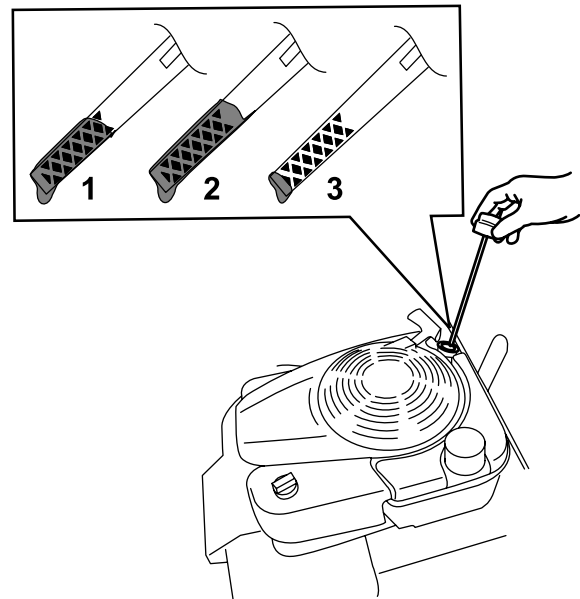

Figure 5
2. Remove the dipstick by rotating the cap counterclockwise and pulling it out (Figure 5).
6. Read the oil level on the dipstick (Figure 5).